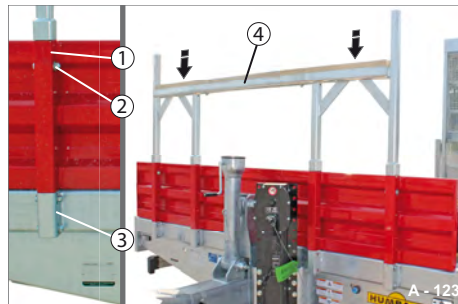

Fig. 176 Support frame secured on front wall
- ▶ If necessary, remove the bolt connection from the front wall posts (Fig. 176/1).
- ▶ Insert the support frame (Fig. 176/4) simultaneously into the front wall post (Fig. 176/1).
- ▶ Secure the support frame with the bolt connection (Fig. 176/2).